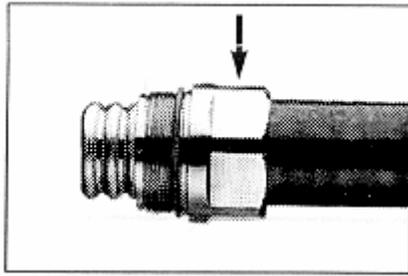

Figure C-12 Adding fixing nut
- 6) Add fixing nut, as shown in Figure C-12.